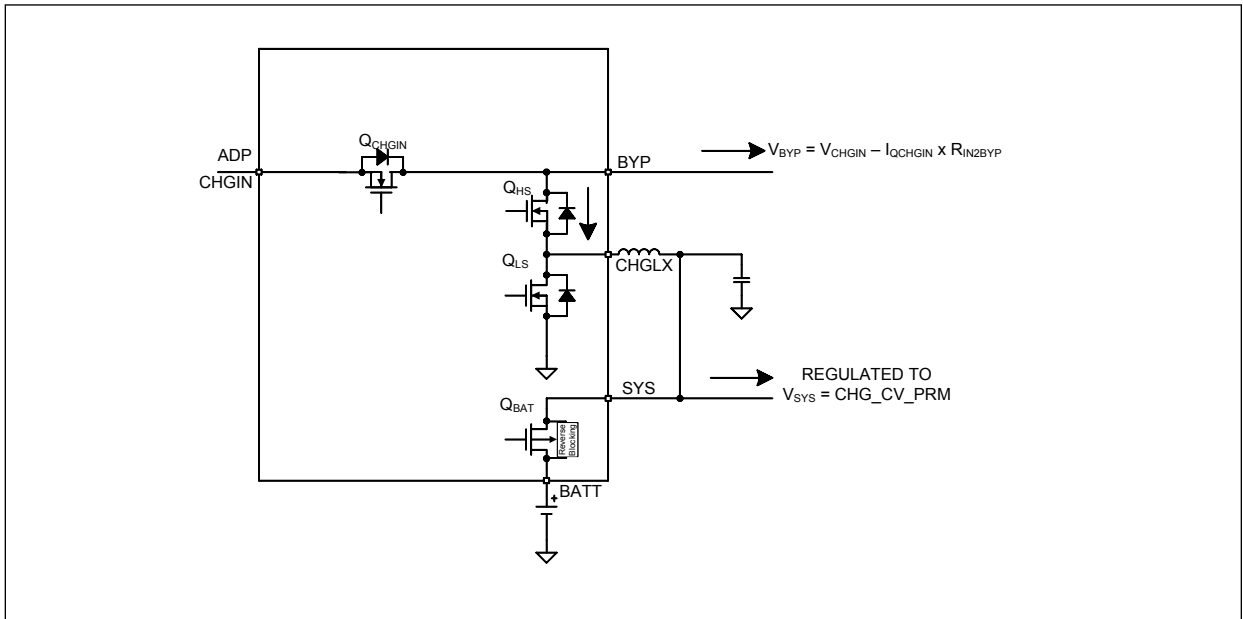

Figure 8. No Charge-Buck
- NO CHARGE-BUCK, MODE = 0x0C: Adapter is detected within the input voltage operating range ($Q_{CHGIN} = \text{on}$). Battery is disconnected ($Q_{BAT} = \text{off}$) and charger is operating in buck mode powering SYS node, see Figure 8.